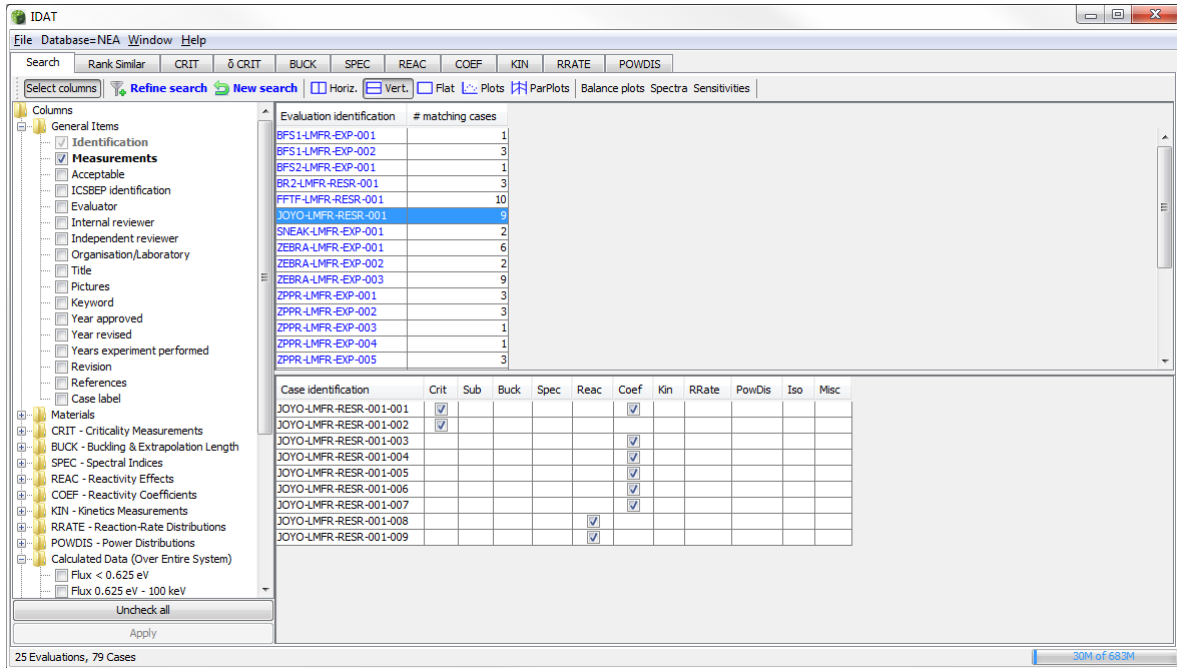

Figure 3: Displaying the parameters in the database
Once the query is executed a results window is returned, as shown in Figure 3.
In Figure 3, the “Measurements” box is checked on the left side of the screen in a Vert. view, producing two lists, the top which contains information at the evaluation level and a bottom list which contains information at the case level, in this instance the measurements done at the case level. By checking the
**Note:** **blue text** in results table are links to associated files (evaluation for instance in Figure 3), double clicking them to open these files (evaluation PDF in the case of blue evaluation id's, but also pictures, calculation inputs files, balance files, mesh tallies). If needed the path to the Handbook folder containing all evaluations PDFs (either on the DVD or a copy on hard drive) can be changed in File→Settings.